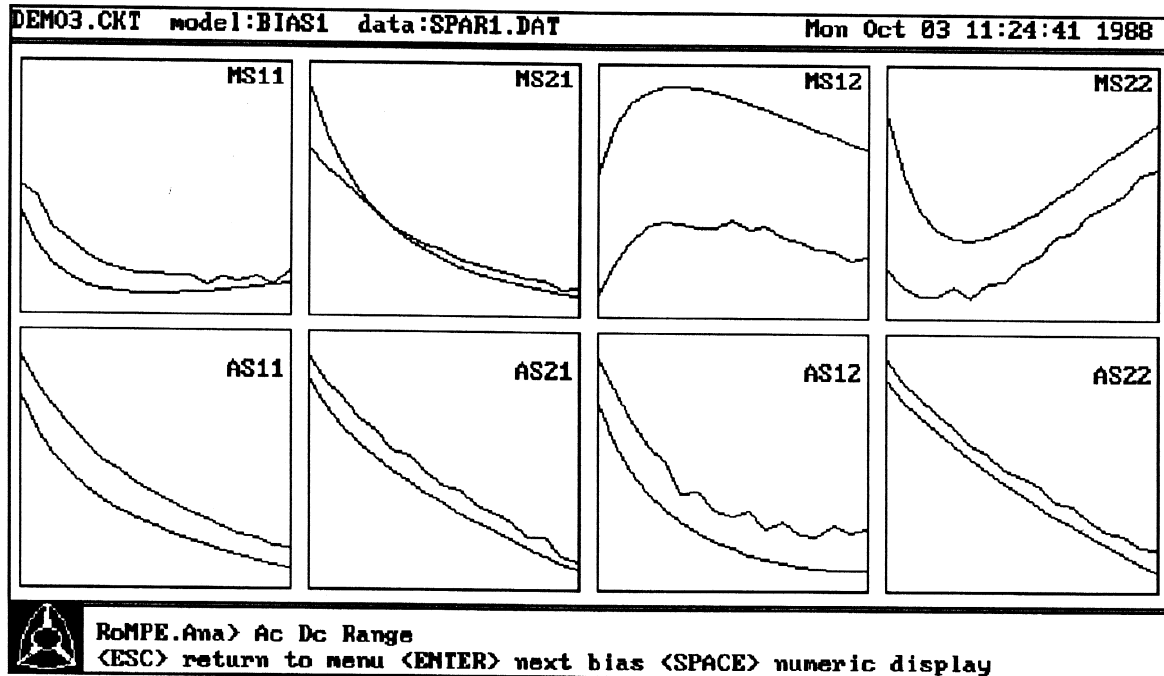
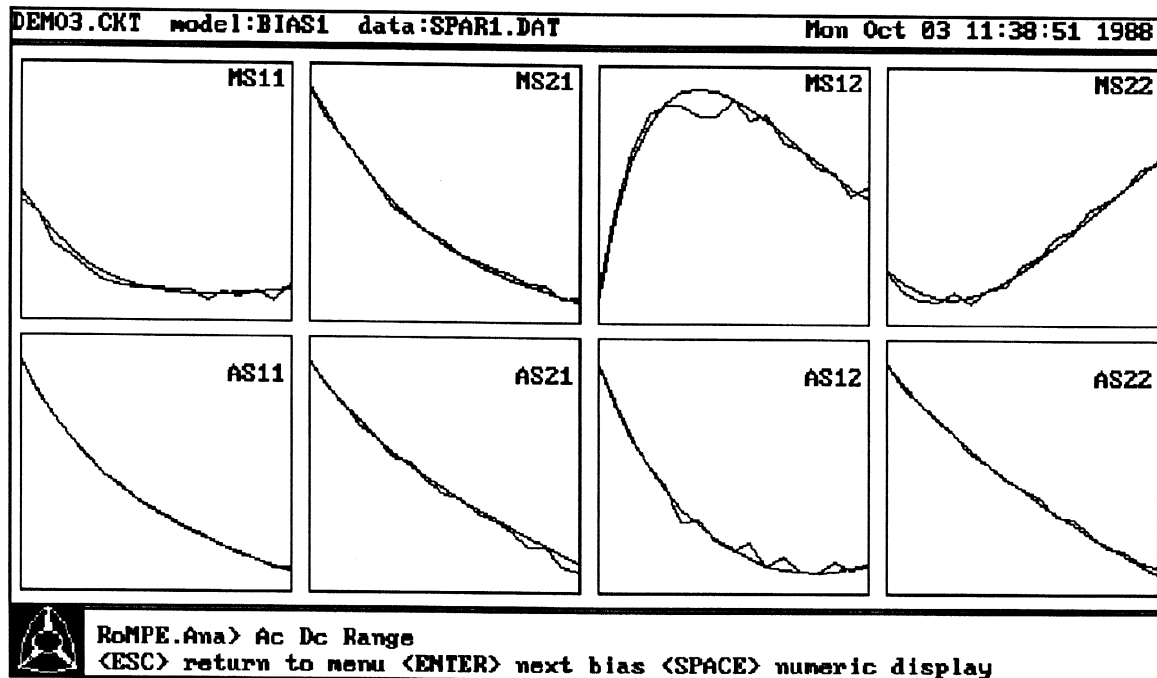

Fig. 6.4 S-parameter match for the first bias point.
Fig. 6.10 S-parameter match for the first bias point after optimization.
6.2 SMALL-SIGNAL (AC) SIMULATION
We first choose a small-signal (AC) simulation. Selecting the Ac option results in a graphical display of the eight S-parameters plotted against frequency for the first defined small-signal model ("BIAS1" from the circuit file), as shown in Figure 6.4.
The optimized model can be simulated using the Ana option. The AC and DC matches shown in Figures 6.10 and 6.11 are clearly improved over those in Figures 6.4 and 6.6.